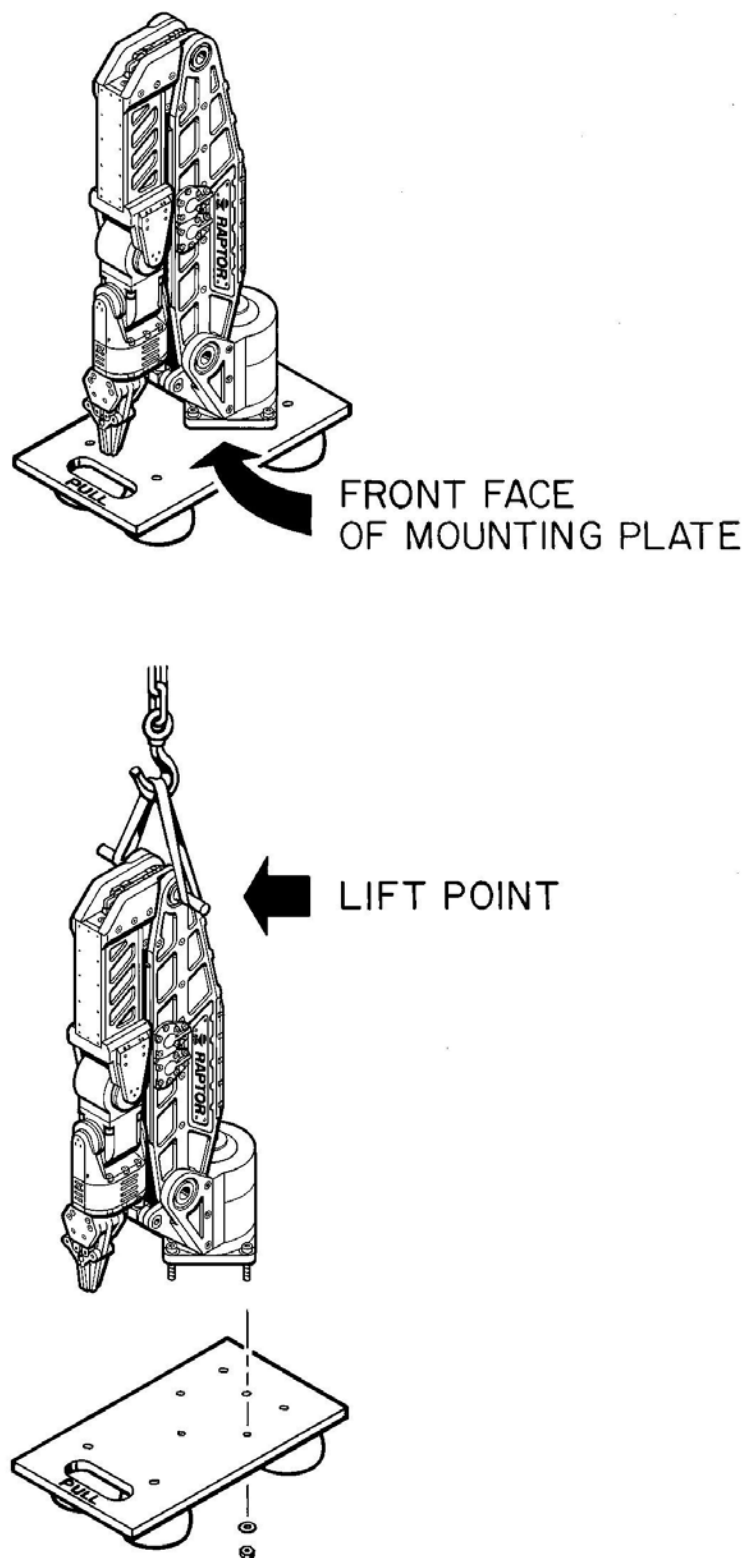

Figure 2-2 Lifting the *Raptor* Slave Arm
3. The manipulator can be rigged for lifting by use of the hollow elbow pivot pin as shown in Figure 2-2.